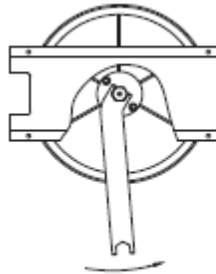
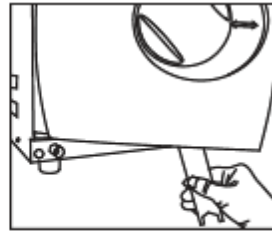

Fig 1
Fig 2
7.4.2 Insert the spanner tool in the gap beneath the plastic cover. Use the spanner to grip the adjusting nut (Fig. 1). Turn the nut counter clockwise as in the figure below (Fig. 2). This will tighten the sealing plate.